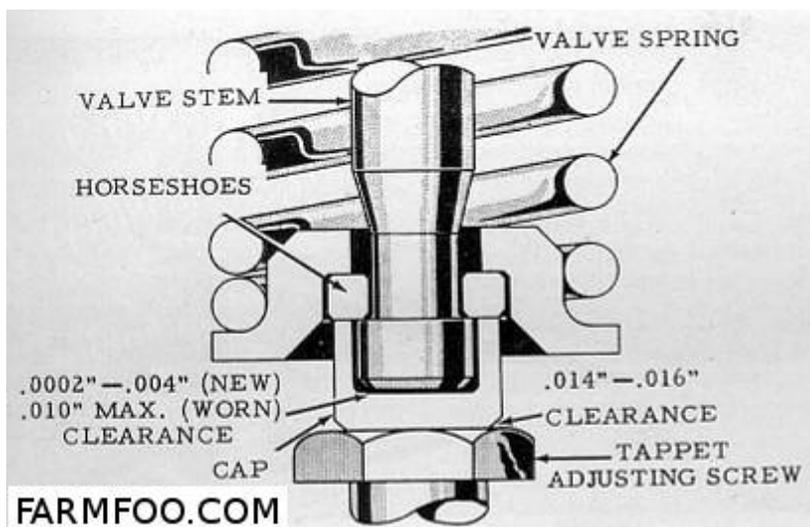

Fig. F017 - Free valve type exhaust valve rotators used on later engines and available in kit form for early engines.
23. Some 8N engines are equipped with free valve type exhaust valve rotators which are also available as a kit for engines not so equipped. Kit contains among other items, 8 adjustable type tappets (pushrods), 4 exhaust valves equipped with special caps and horseshoe type spring retainers as shown in Fig. F017. Tappet clearances of .010 - .012 cold for inlet and .014 - .016 cold for exhaust valves are same as on non-adjustable tappets, but rotator caps must be adjusted as outlined in paragraph 27.
On engines with free type exhaust valve rotators (Fig. F017) a gap or end clearance of .0002 to .004 must exist between cap and end of valve stem as shown. One method of checking this gap with valve installed in engine is show in Fig. F019. Valve must be off its seat when making this check. If clearance is more than .004, reduce the length of cap by lapping open end of same on emery cloth laid on a flat, smooth surface. If clearance is less than .002 install new valve keys or, if keys are not work, grind end of valve stem until specified clearance is obtained. For additional data on various types of valve rotators, refer to STANDARD UNITS manual.